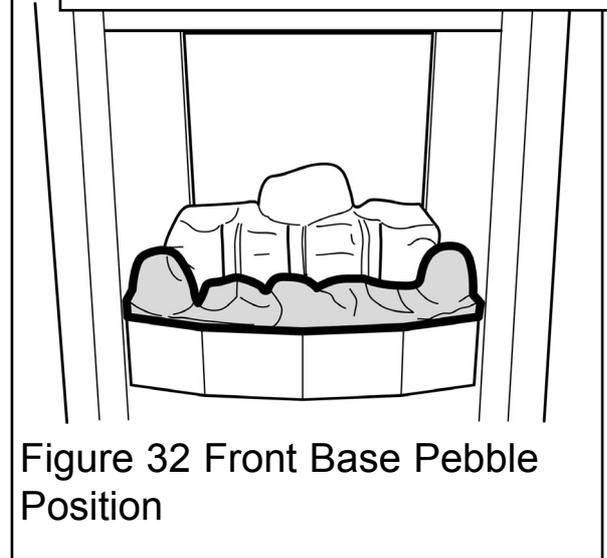

Figure 32 Front Base Pebble Position
2. Place the front base pebble in the firebox with its bottom front locating over the front rim of the firebox. Pull the pebble forward so that it locates immediately behind the front rim of the firebox. (See figure 32). The front base pebble will touch the rear base pebble as it is located.